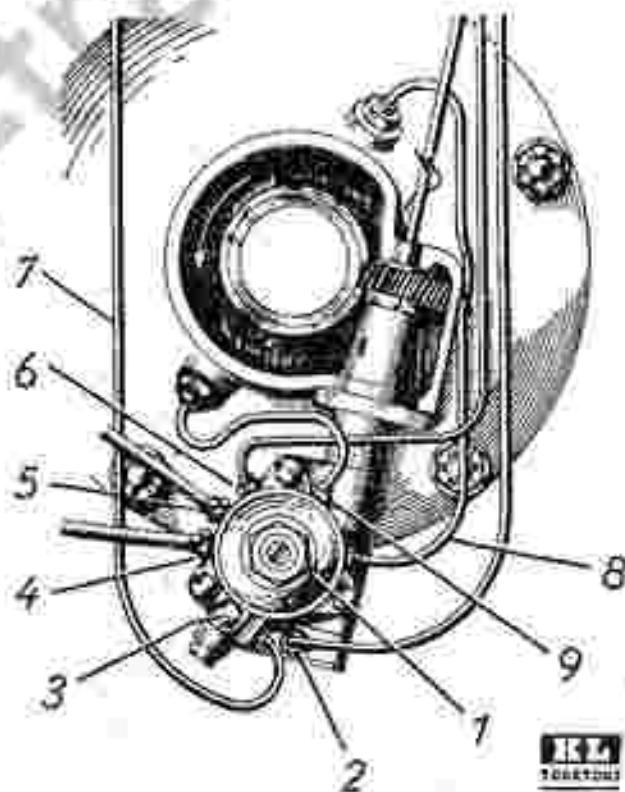

Fig. 17. Mechanical lubricator and pipes
OILER - Main bearings, big end and piston including piston rod and cylinder walls are served by the mechanical oiler, which is fitted in the main bearing cover behind the left flywheel and driven from the crank shaft by a skew gear and shaft as shown in Fig. 17. The oiler consists of 4 plunger pumps, the bores of which are bored into the pump body, Fig. 18 (6). A separate oil pump is provided for each point, requiring lubrication, and the action is as follows:-